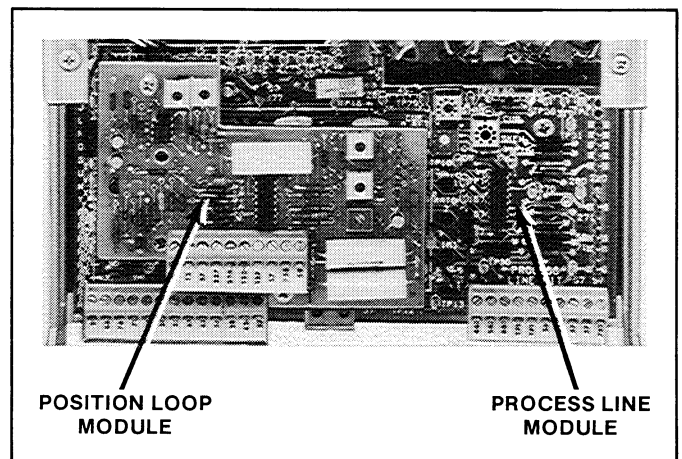

Figure 5.8. Position Loop Kit installed.
5.4 Position Loop — The Position Loop Kit (Figure 5.8) is used in conjunction with the Process Line Kit. It will provide the necessary electronics for most vernier and true position applications without the need of an additional rack and 44-pin module. It also provides the ability to be modified to serve for current or tension loop applications.